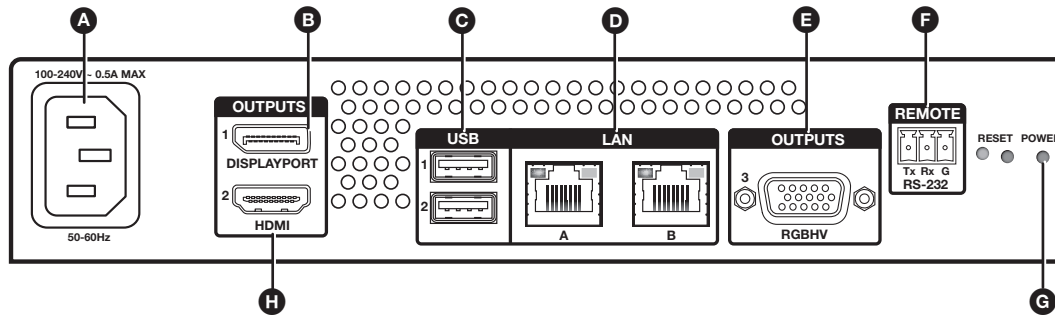

Figure 1. QC 101 Rear Panel
3. **Connect a display** to the DisplayPort, VGA, or HDMI output connector (see figure 1, **B**, **E**, or **H**).
4. **Connect the keyboard, mouse, and flash drive** (if needed) to the rear panel USB ports (see figure 1, C, on the previous page) to create and save Quantum Elite or Connect configuration project files (see the *Quantum Control Software User Guide*, available at www.extron.com).